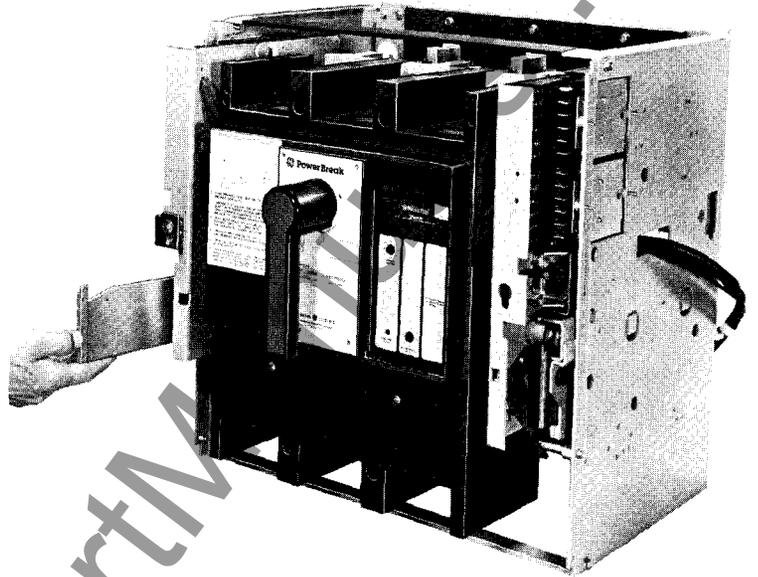

Fig. 9
2. Withdraw substructure rails by pulling out as far as possible until they drop into the horizontal locked position. (Fig. 9)